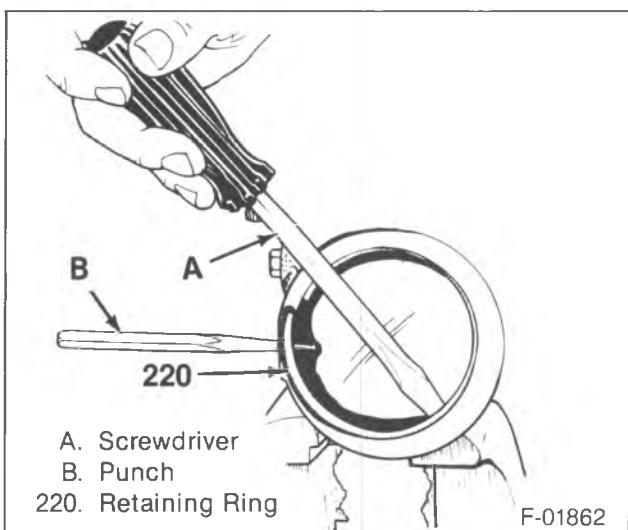
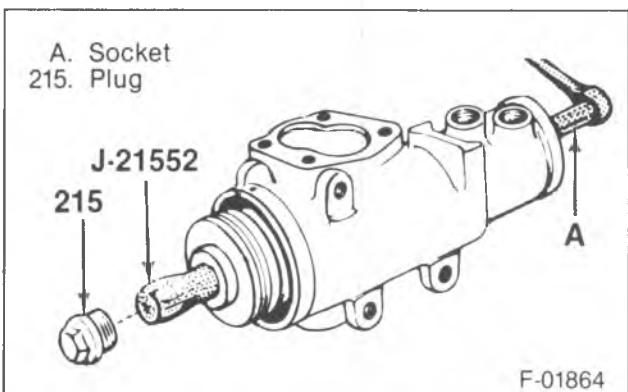

Figure 3—Removing the Retaining Ring
Figure 4—Removing the Plug and Piston Rack
- Pry retaining ring out of the housing groove with a screwdriver (figure 3).
2. Plug (219). Turn stud shaft (251) to the left only until the plug is forced out of the cylinder.
3. Seal (218).
4. Plug (215) from the rack piston (214) (figure 4).
5. Nut (227), bolt (226), side cover (225) and gasket (224). Turn adjuster screw (222) to the right until the side cover separates from the pitman shaft (221).